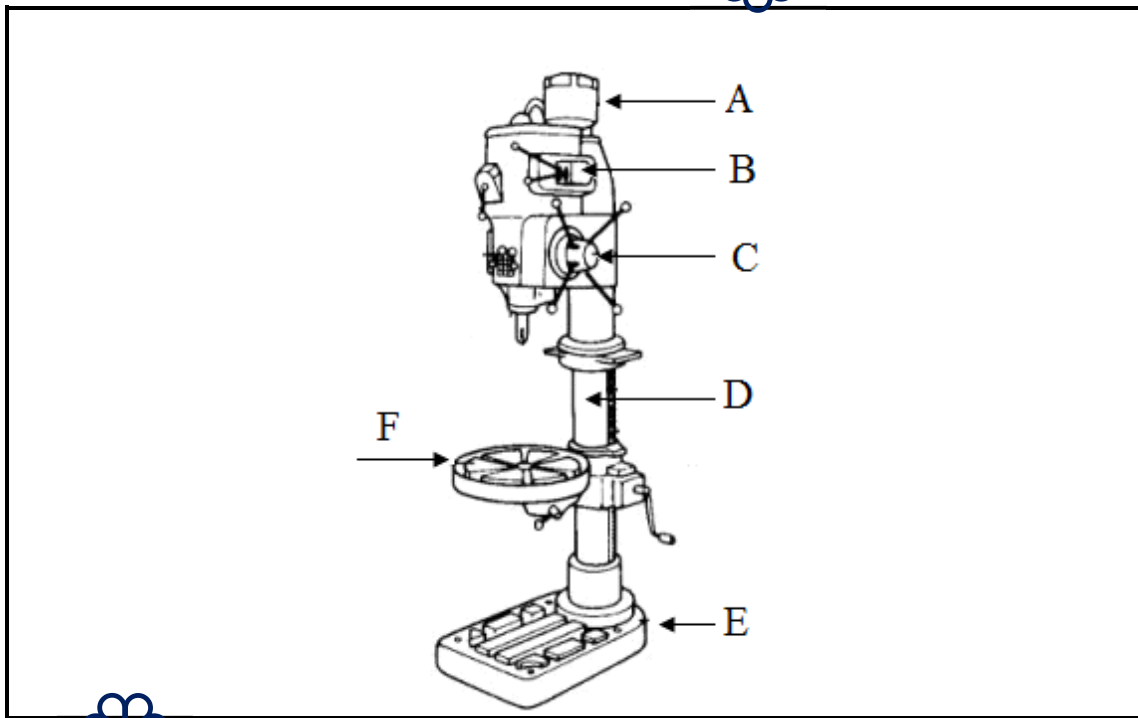

FIGURE 2
2.1 FIGURE 2 shows a pillar-type drilling machine.